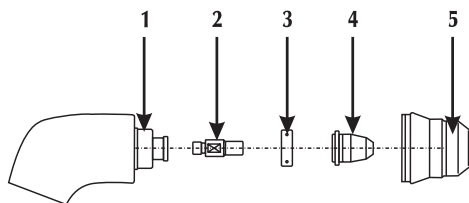

Fig.1 Assemblaggio corpo torcia
- 2) Check that all the parts of the torch are working. For the various parts that make up the torch body (Fig.1), the sequence of correct assembly is 1-2-3-4-5.